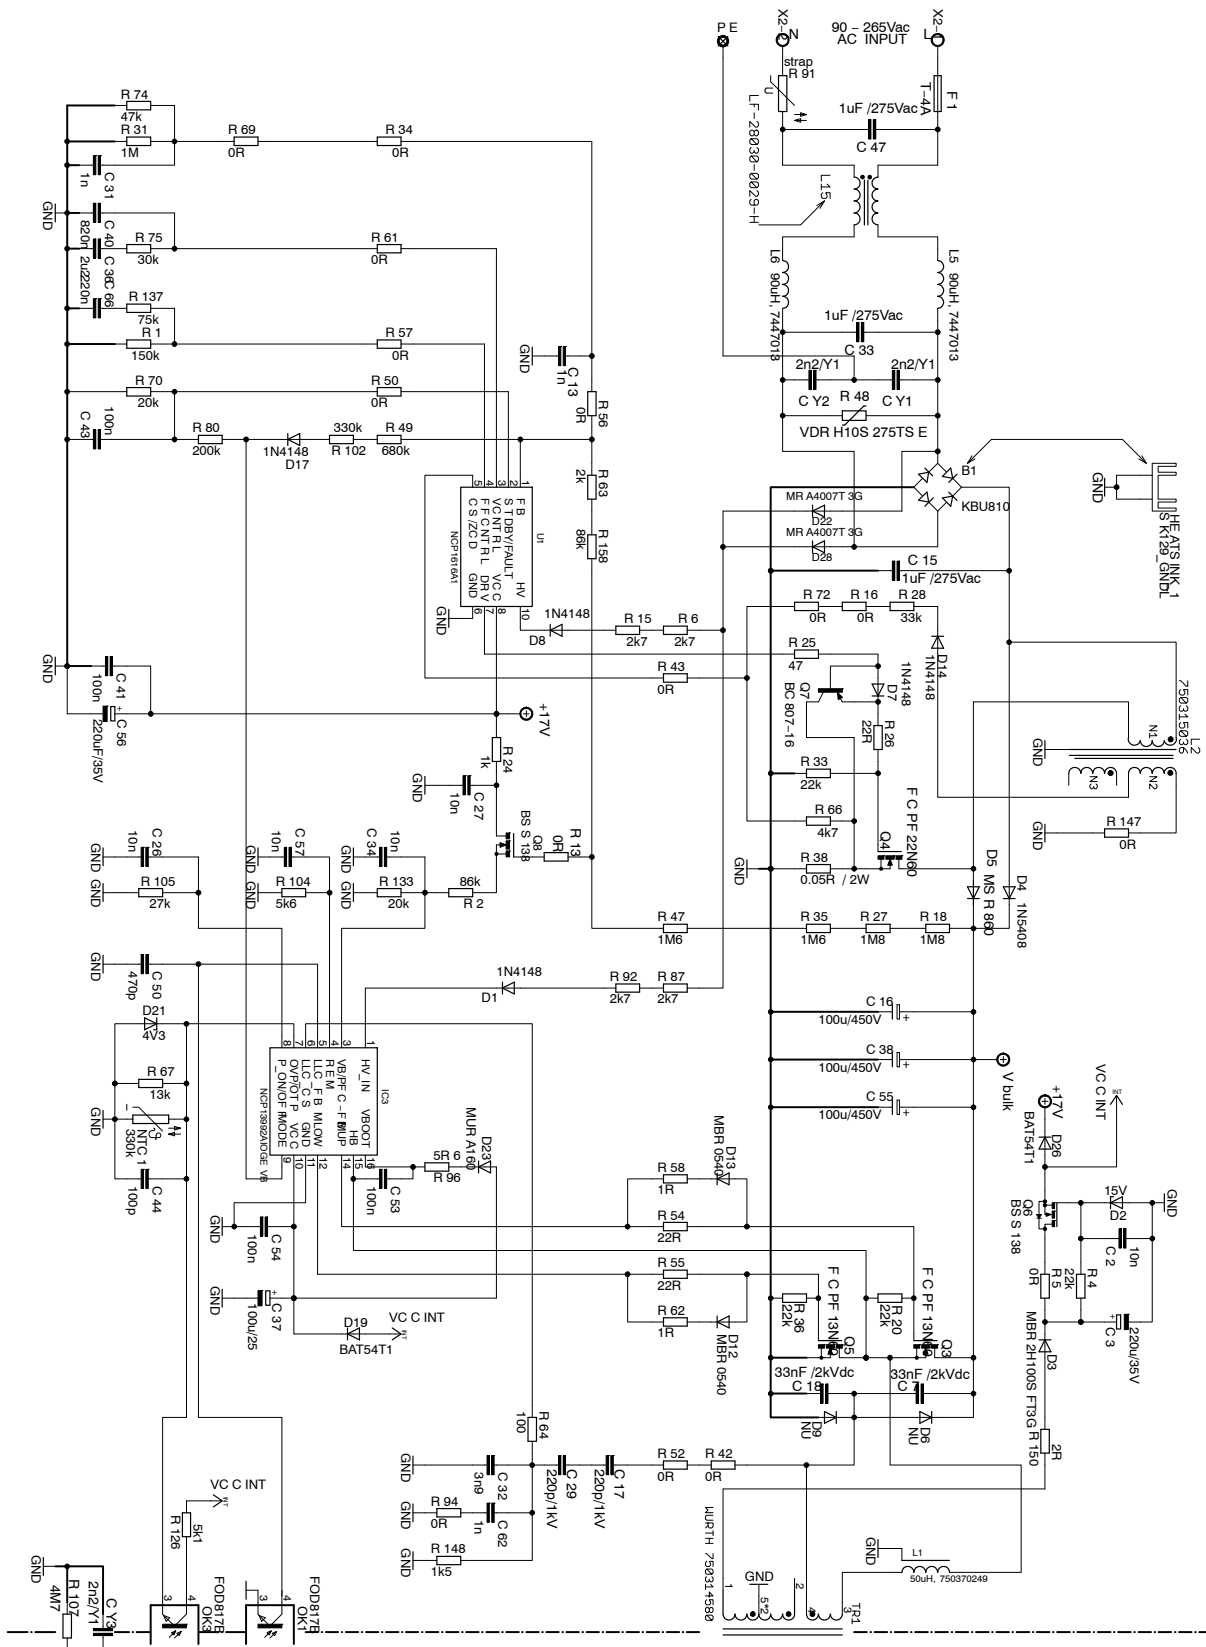

Figure 2. AOI Demo-board Schematic – Primary Side
The input EMI filter is formed by components L15, L5, L6, C47, C33, CY1, CY2 and R48 – refer to Figure 2. The inrush current limiting resistor R91 is substituted by strap in this demo revision – one can replace it by appropriate NTC inrush current limiter if needed. The U1 – NCP1616 (Figure 2) with diodes D22, D28 and resistors R6, R15 is used to X2 capacitor discharge function after application is disconnected from the mains. This circuit also provides PFC Vcc Start-up feature and input voltage sensing, also is partly shared for the LLC controller IC. The Power Factor Corrector (PFC) power stage uses standard boost PFC topology formed by power components B1, C15, L2, D4, D5, Q4, R38, and bulk capacitors C16, C38, C55. The PFC controller U1 (NCP1616) senses input voltage directly via pin 10 (HV) through network above mentioned. The PFC inductor current is sensed by the shunt resistor R38. The series resistor R38 sets maximum PFC front stage peak current. Maximum peak current level is to 10 A. The PFC feedback divider is shared with LLC brown-out sensing network in order to reduce application no-load power consumption. The PFC FB divider is formed by resistors R18, R27, R35, R47, R158, R63, R56, R34, R69, R74 and R31. The FB signal is filtered by capacitor C13 and C31 to overcome possible difficulties caused by the parasitic capacitive coupling between pin and other nodes that handle high dV/dt signals. The internal bulk voltage regulator compensation C40, C36, R75 is connected through R61 to the U1 pin 3. The PFC MOSFET is driven via circuitry R25, D7, R26, R33 and Q7. This solution enables to define needed turn-on and turn-off process speed for Q4. The PNP transistor Q7 is connected directly source of Q4 (not through sensing shunt R38) to minimize discharge loop and thus allow fast turn off PFC switch and also minimizing EMI caused by the driver loop. The PFC coil auxiliary winding voltage after rectifying with D14 provides ZCD signal for PFC controller. The NCP1616 has shared pin 5 – CS/ZCD for current limit and zero current detection. During turned-on Q4 is sensed and limited maximum input current and after turning-off Q4 is detected zero current condition. The resistance of R66 should be bigger than 3.9 k Ω to avoid wrong detection of destroyed R38. Also, resistance R28 should be reasonable high enough to limit no-load and light-load consumption.